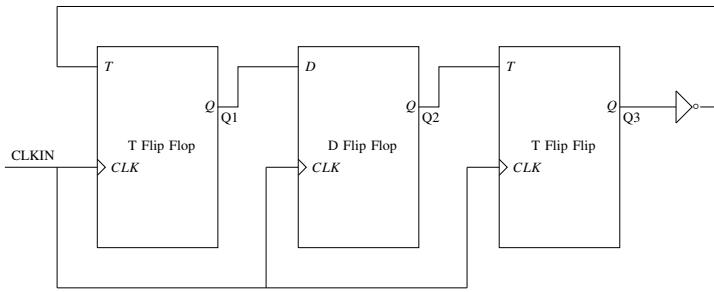

Fig. 5.11
11. Consider a sequential digital circuit consisting of T flip-flops and D flip-flops as shown in Fig. 5.11. CLKIN is the clock input to the circuit. At the beginning, Q_1, Q_2 and Q_3 have values 0, 1 and 1, respectively.